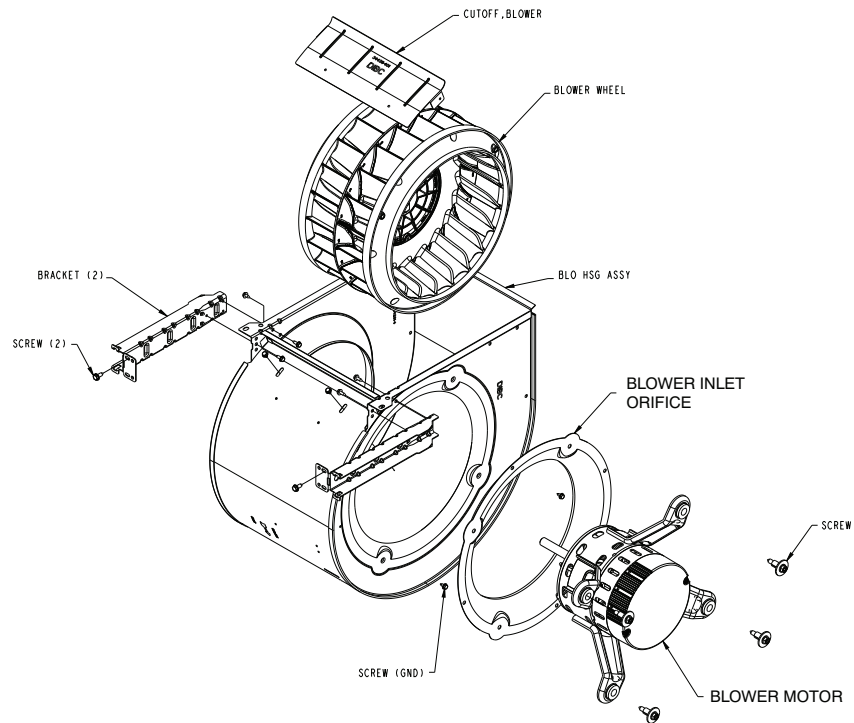

Fig. 4 - Blower Assembly
12. Remove the mounting arm brackets or any other remaining baffles attached to the blower housing. See Detail A of Fig. 4.